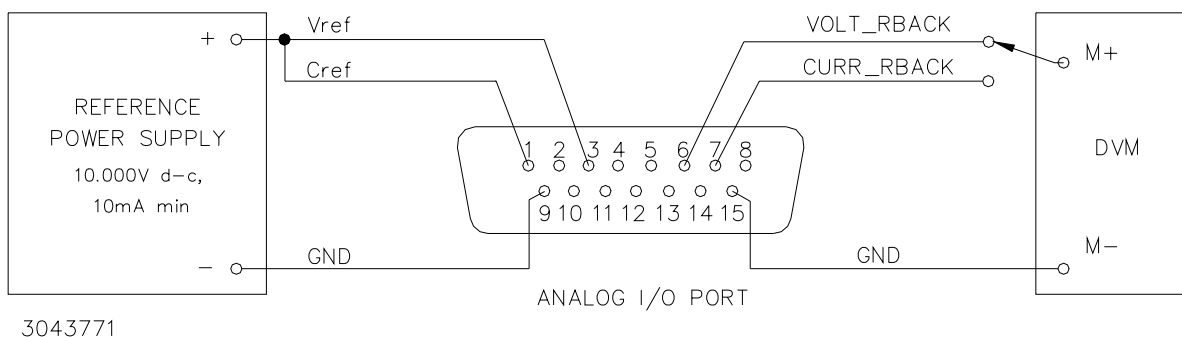

FIGURE 4-1. ANALOG PORT WIRING FOR CALIBRATION
5. Configure the mating I/O connector (provided with unit) to access the input programming signals (Vref and Cref) and output readback signals (VOLT_RBACK and CURR_RBACK) as shown in Figure 4-1. Note that the wires to Vref and Cref should be tightly twisted with the corresponding GND wire and kept as short as possible. Then connect the I/O mating connector to the Analog I/O port of the power supply.
3. Tap the **DC OUTPUT** switch to accept the value; the status display now reads **OUTV**. At the ANALOG I/O PORT J2, connect the DVM to VOLT_RBACK and GND as shown in Figure 4-1. Rotate the **VOLTAGE** control to increase or decrease the output voltage until the DVM reads as close as possible to 10V.
5. Tap the **DC OUTPUT** switch to accept the value; the status display now reads **OUTC**. At the ANALOG I/O PORT J2, connect the DVM to CURR_RBACK and GND as shown in Figure 4-1. Rotate the **CURRENT** control to increase or decrease the output voltage until the DVM reads as close as possible to 10V.
9. If password is correct, the status display on the VXI main panel reads CAL and the buttons on Calibration Screen (Figure 4-1) are enabled (highlighted). If the password is incorrect, the
4. Click the **Press to ACCEPT** button to accept the value; the status display now reads **OUTV**. At the ANALOG I/O PORT J2, connect the DVM to VOLT_RBACK and GND as shown in Figure 4-1. Click the “+” button to increase and the “-” button to decrease the output voltage until the DVM reads as close as possible to 10V.
- Click the **Press to ACCEPT** button to accept the value; the status display now reads **OUTC**. At the ANALOG I/O PORT J2, connect the DVM to CURR_RBACK and GND as shown in Figure 4-1. Click the “+” button to increase and the “-” to decrease the output current until the DVM reads as close as possible to 10V.